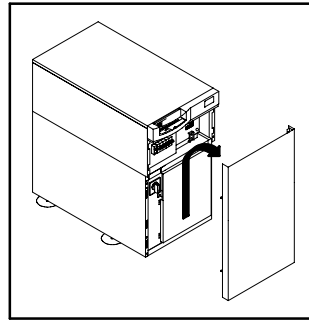

Figure 6. Remove the UPS Front Cover
2. Remove the UPS front cover and locate the female, 9-pin, RS-232 port (see Figure 6).